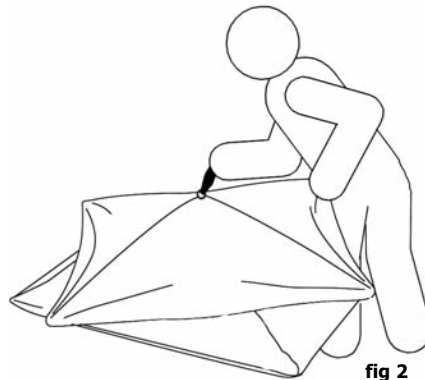
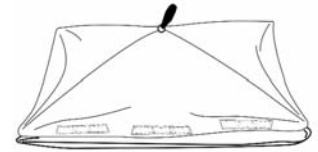

fig 2
fig 2a
**Step 2:** Firmly pull center hub of roof pull so it pops up (fig 2). Twist top of blind so corners of top and bottom line up (fig 2a). This will make for easy set up when opening wall hubs.